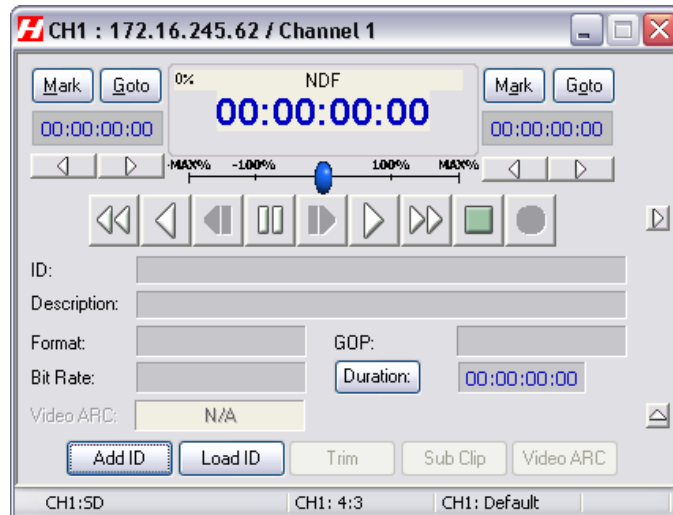

Figure 3-10 First Record Channel Window
- 1 In the first record or bi-directional channel window, click **Add ID** (see Figure 3-10).